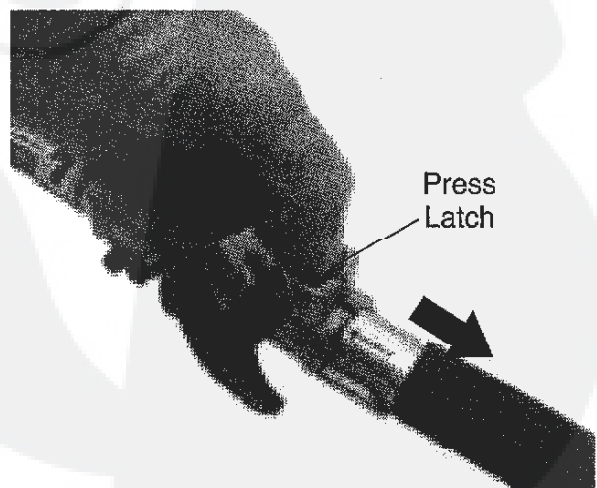

Figure 8
2. Press down on the latch with your finger or thumb. This releases the coupler lock. See Figure 8.